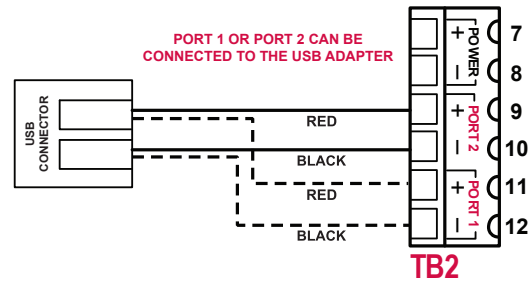

Figure A.18—Wiring of NuFlo USB adapter (required only when purchased as a kit)
3. Wire the adapter cable to either communications port on the Scanner 2100 main circuit board as shown in Figure A.18, page A-13 (black wire to negative terminal).